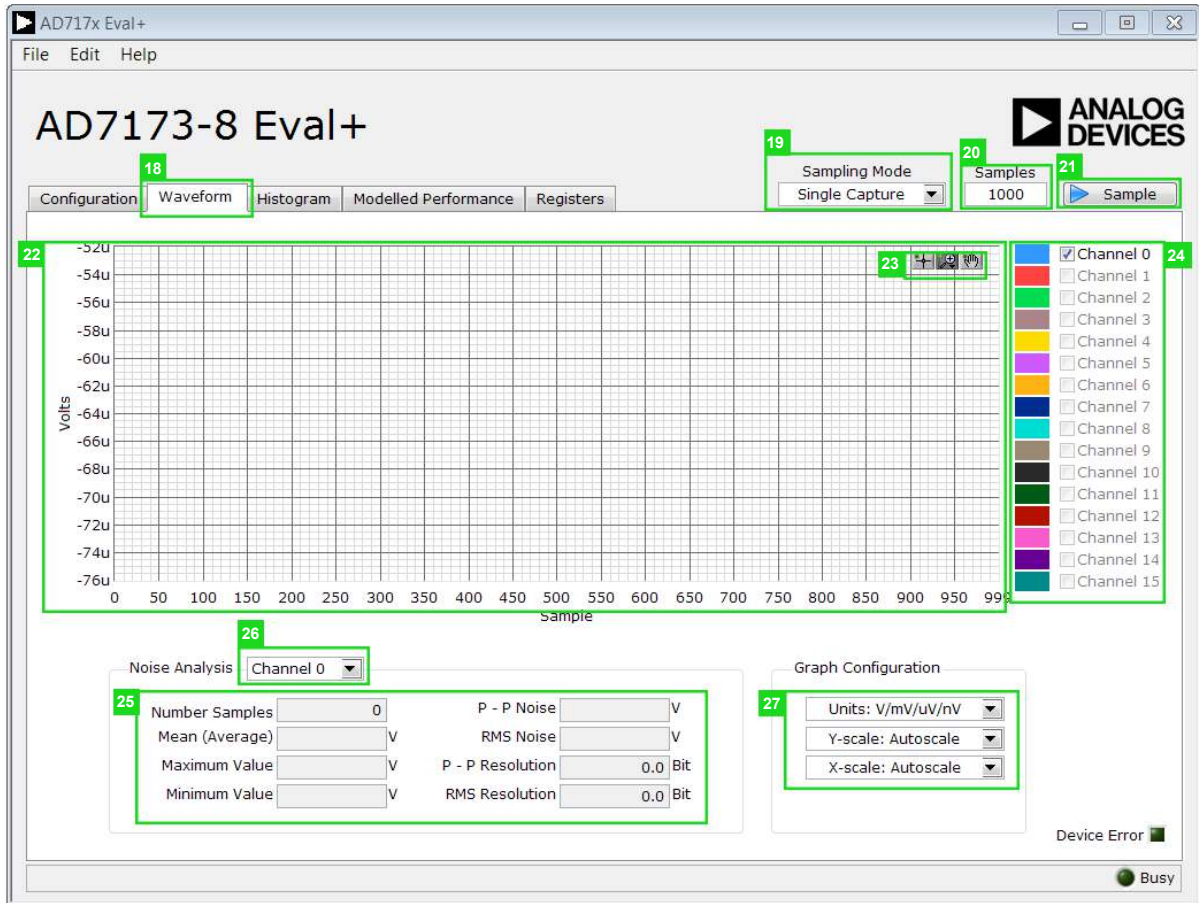

Figure 18. **Waveform** Tab of the **AD7173-8** Evaluation Software
Figure 18 shows the **Waveform** tab of the AD717x Eval+ software.
Click the **Sample** button to start gathering ADC results. Results appear in the waveform graph (22). See Figure 18.
The data waveform graph shows each successive sample of the ADC output. Zoom in on the data using the control toolbar (labeled 23 in Figure 18). Click the x-axis and y-axis to change the scales on the graph.